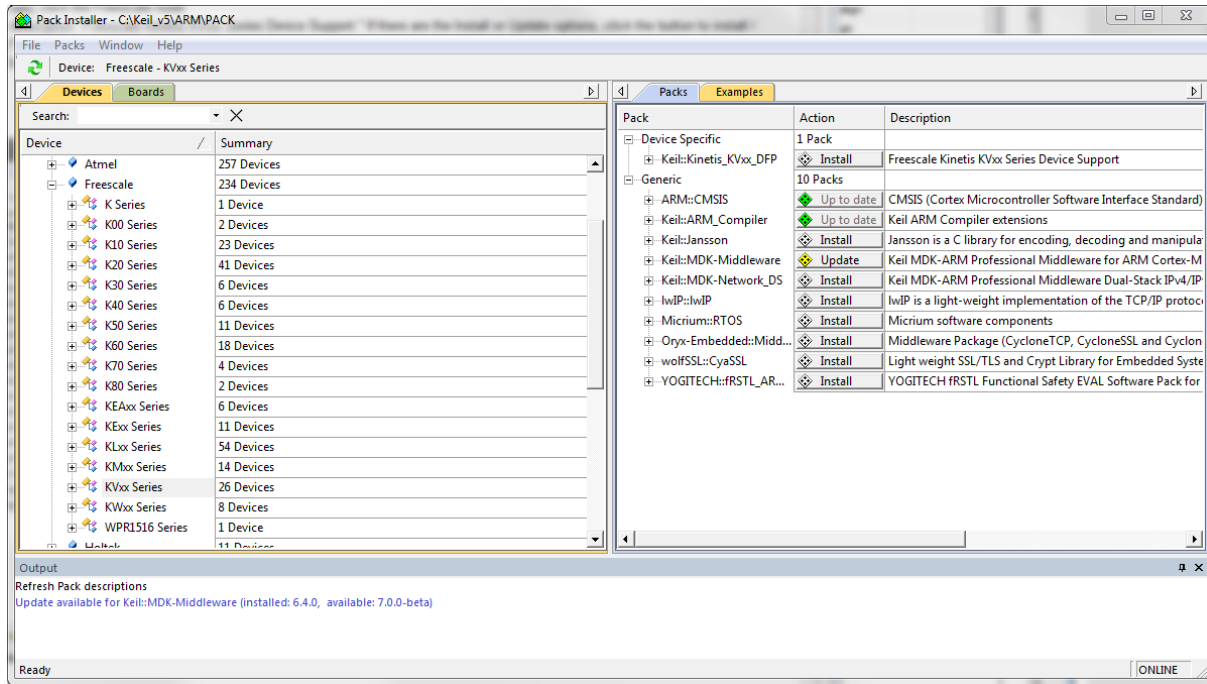

Figure 1-16. Pack Installer
6. Look for a node called "Keil::Kinetis_KVxx_DFP." If there are the Install or Update options, click the button to install/update the package. See Figure 1-16.